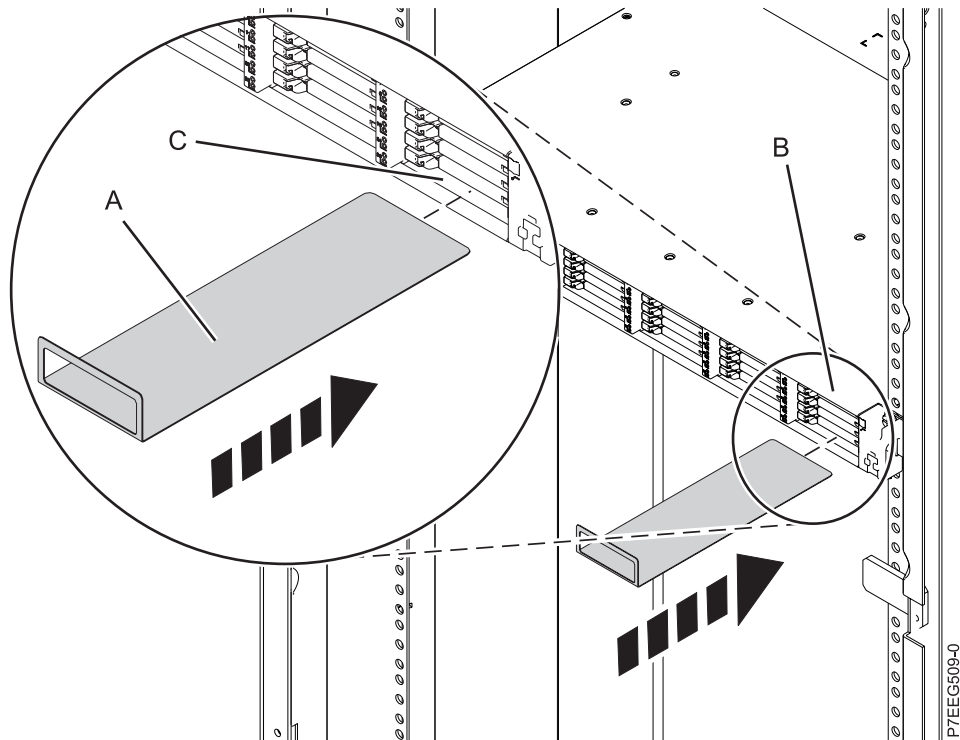

Figure 17. Inserting the service card
- f. At the front panel of the enclosure, hold the service card (A) with its handle away from the enclosure and facing upward, as shown in Figure 17. Align the other end of the service card with the bottom of the last bank of solid-state drives (SSDs) on the right of the enclosure (B). Gently slide the service card into the space between the bottom SSD slot and the sheet metal of the chassis (C).